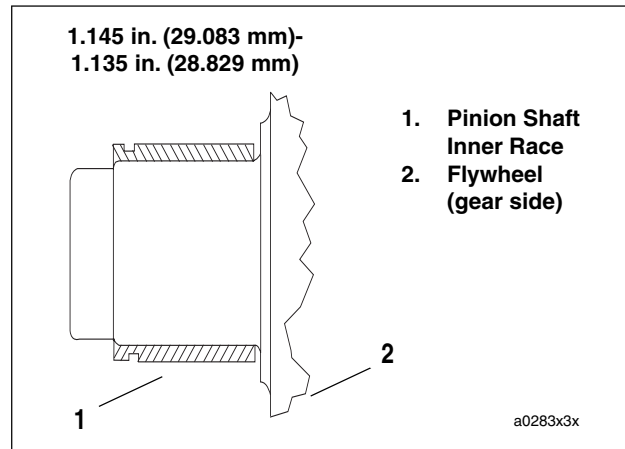

Figure 3-145. Inner Race Location
9. See Figure 3-145. Press **new** inner race on pinion shaft as shown. When the tool bottoms against the flywheel, correct inner race location is automatically established. The finished inner race must meet the specifications in Table 3-34.